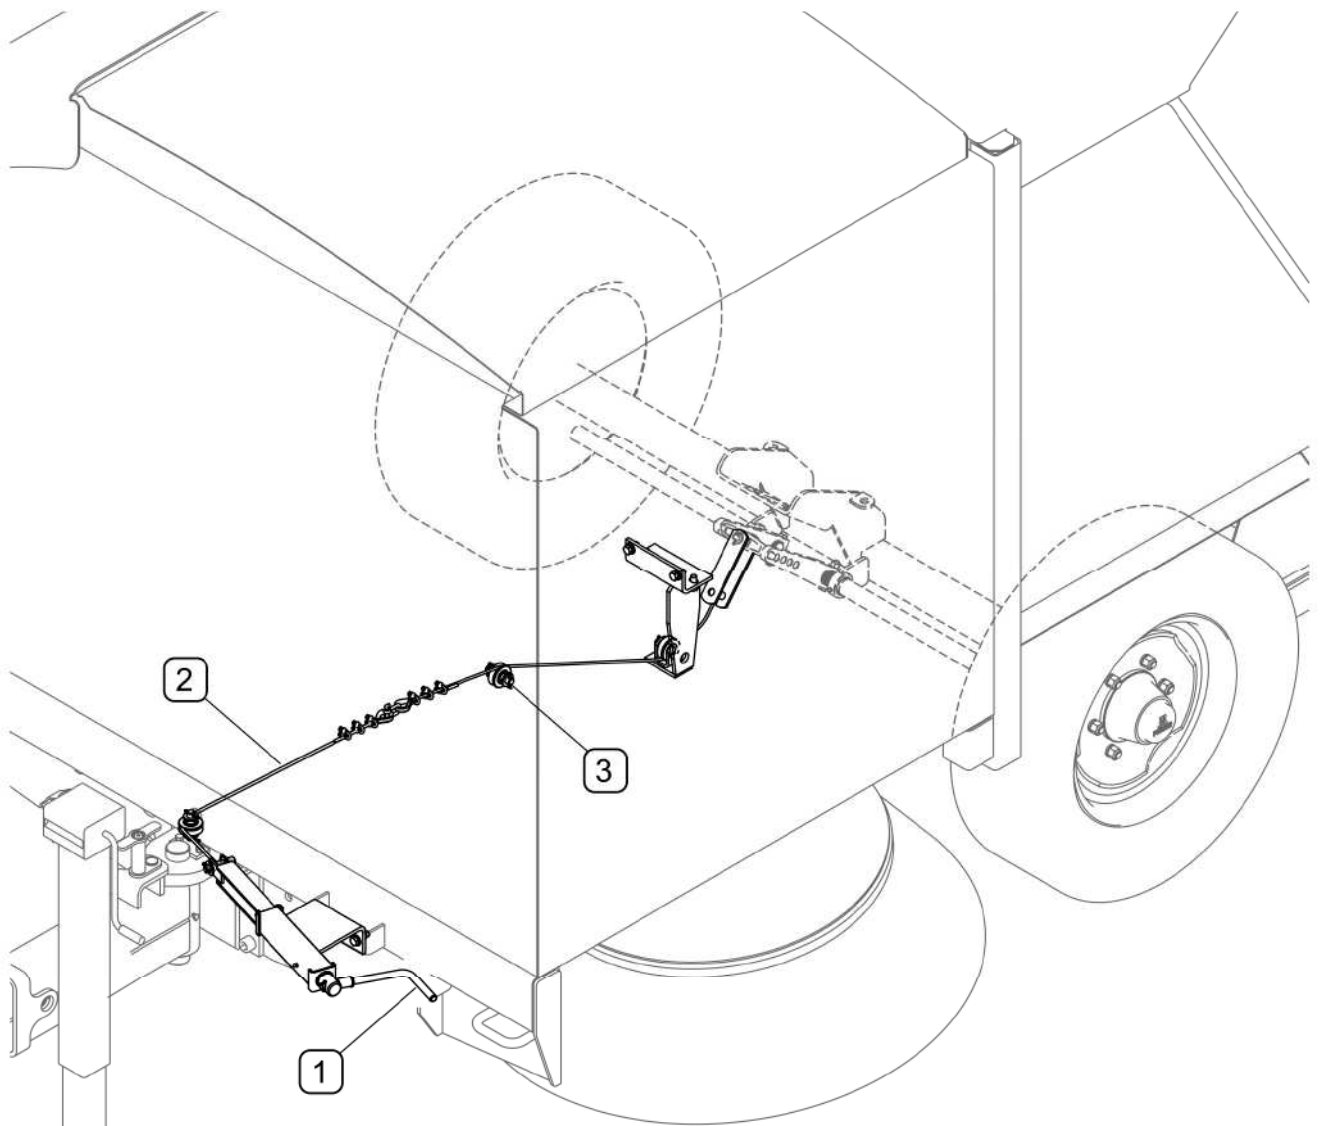

FIG. 3.6 Parking brake
Parking brake control mechanism (FIG. 3.6) is located at the front of the sweeper's frame, and is used for immobilising the machine while standing motionless. The brake is applied by rotating crank mechanism (1) clockwise. The mechanism tightens the steel cable (2) and causes tilting of the expander lever, which parts the jaws of the brake shoes immobilising the machine. In order to release the brake, turn the crank of the brake's mechanism anticlockwise.